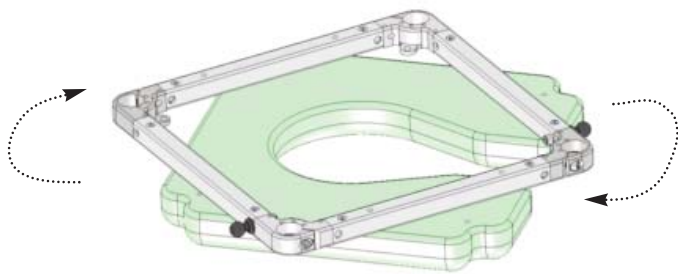

Figure 8
**A Seat Cushion Orientation:** The standard seat cushion orientation is with the commode opening in the front of the multiCHAIR. If desired, the commode opening can also be orientated left/right/rear. This can be accomplished by unscrewing the four button head cap screws that attach the cushion to the frame, orientating the commode opening to the desired location and then re-attaching the cushion to the frame with the four screws using the 5/32" Allen wrench (Refer to Figure 8).